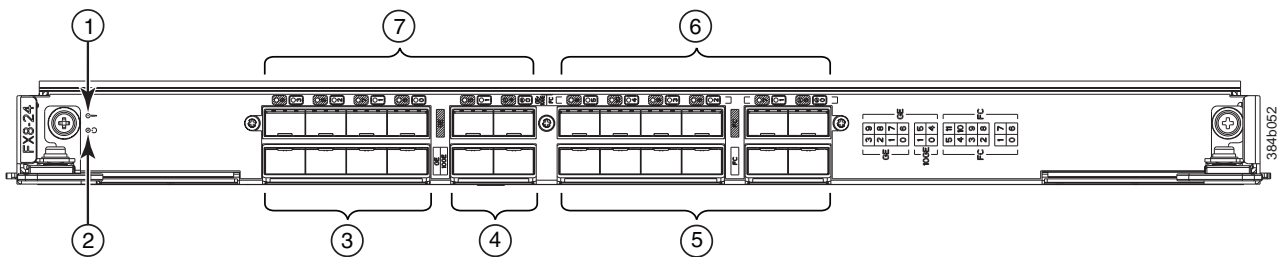

Figure 23. FX8-24 extension blade
- Figure 23 on page 48 illustrates the FX8-24 extension blade